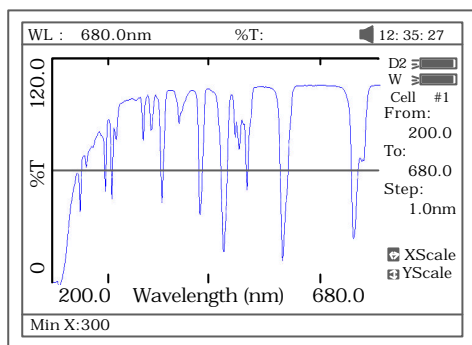
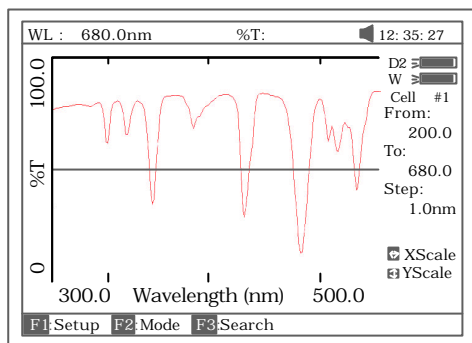

Fig47
Fig 48
5. If you want to change the scale, press **【 < 】** or **【 > 】** to change “x” scale (Fig 47), input upper limit and lower limit by pressing the numeric keypad. To change “y” scale press **【 】** or **【 】**. After these inputs the instrument will redraw the curve (Fig 48).
Press **[SAVE]** to save the curve. Note: Load/Save requires the first scan display page Fig. 48. Press **ESC** if in Search to return to the required page